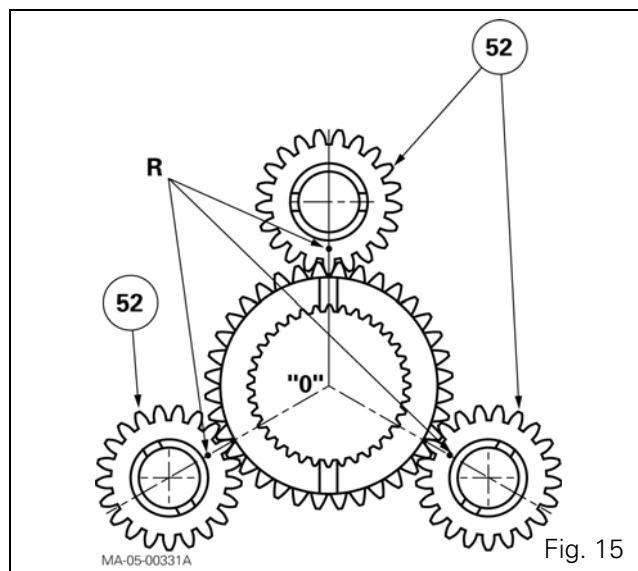

Fig. 15
- a port, one of which is closed off by a rivet (35) and the other is used to lubricate the planet gears;
82. Refit the partially assembled planet carrier. Position the snap ring (56) and the rear snap ring (61).
83. Position marks "R" (punch marks) on the double planet gears (52) (Fig. 15) so that they pass through a centre line meeting at "O" (Fig. 15).